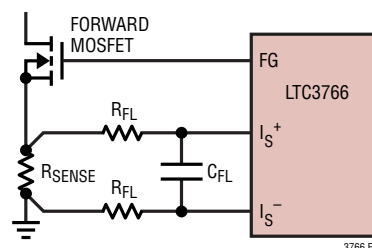

Figure 11. Using a Current Sense Resistor
When using a current sense resistor, the I_S^+ and I_S^- pins operate differentially and the maximum peak current threshold is approximately 75mV. Normally, the current sense resistor is placed in the source of the forward MOSFET, as shown in Figure 11. Depending on PCB layout and the shielding of the traces going to the I_S^+ and I_S^- pins, it is sometimes necessary to add a small amount of filtering as shown in Figure 11. Typically, values of $R_{FL} = 100\Omega$ and $C_{FL} = 200pF$ to $1nF$ will provide adequate filtering of noise pickup without substantially affecting the current loop response.
1. The accuracy of the current sense resistor and/or current sense transformer. For resistor sensing, the accuracy of the current sense resistor is normally 1%. For sense resistors less than $2\text{m}\Omega$, however, the parasitic inductance can cause a significant error in the sensed current. This error can be eliminated by adding an RC filter as shown in Figure 11.